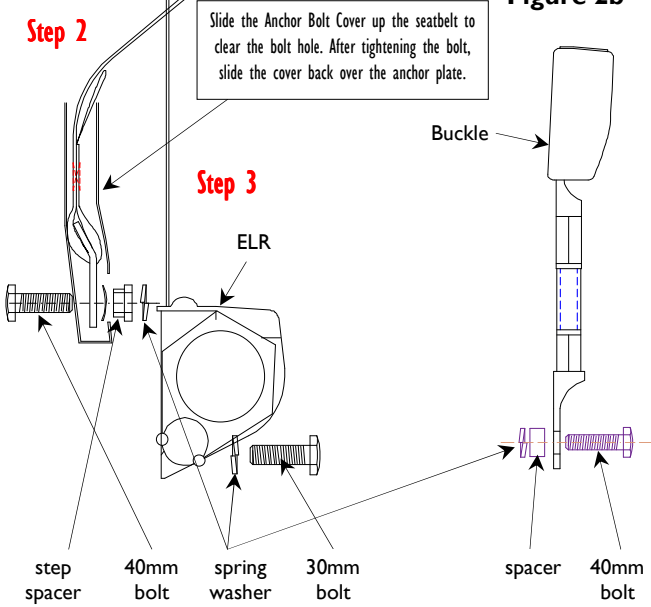

Figure 2b
- Assemble the buckle half as shown in figure 2b.